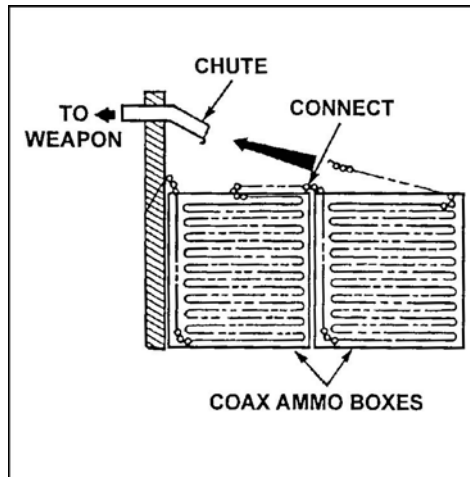

Figure 5. Load second and third sections.
- c. Continue loading 100-round belts into the ammunition box by linking new belts to the loaded belt, snapping the single link to the last cartridge of the new belt. As other ammunition boxes are opened and 100-round belts are taken out, inspect rounds and links for misalignment or damage. Again, realign if necessary and DO NOT load unserviceable ammunition. Continue to load until the first section of the ammunition box is full, then the second section (Figure 5).
- a. Feed the ammunition belt into the chute from the ammunition box, with the cartridges pointing away from the loader and the single link leading (Figure 5).